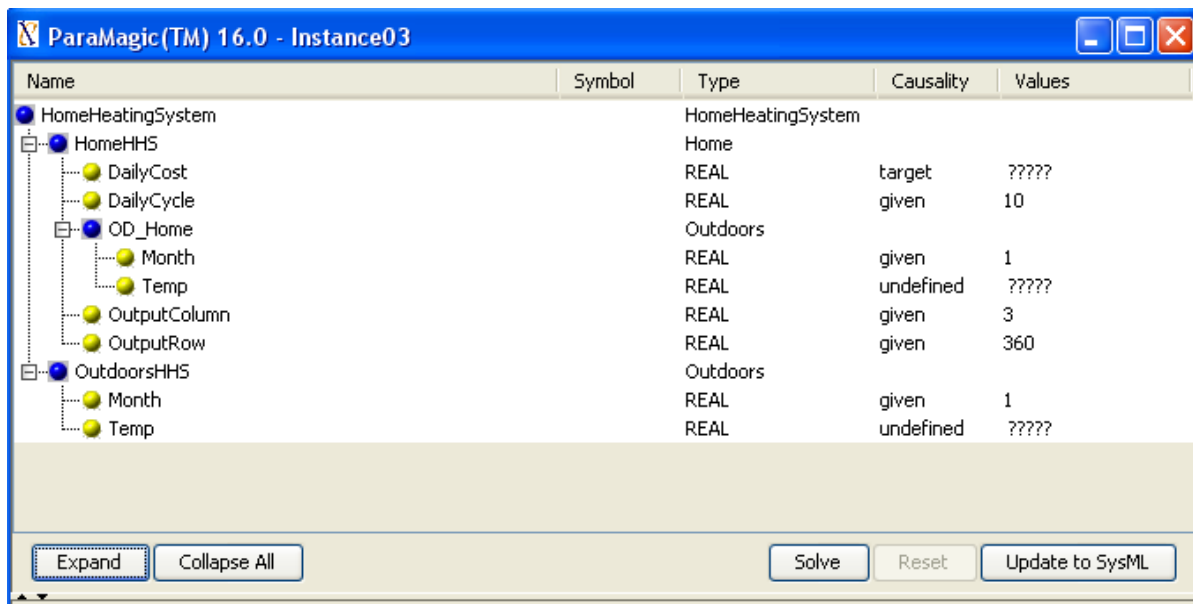

Figure 7.8 Browser before solution
11. Open the Browser (Figure 7.8) and click Solve.